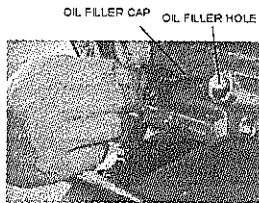

Figure 12- Checking the oil
2. Unscrew the oil filler/dipstick cap (see figure 12).
2. Unscrew the oil filler/dipstick cap from the engine as shown in figure 12 above.